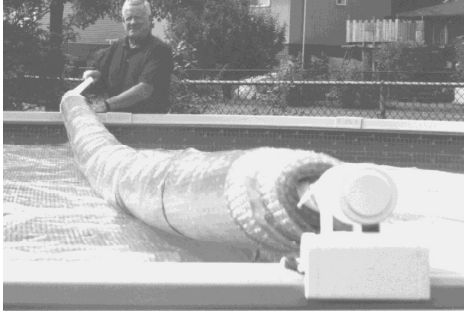

Fig. 11
- The Surface Rider is *designed to bow* (see Fig. 11). The cover and the reel are supported by the buoyancy of the water during rolling.